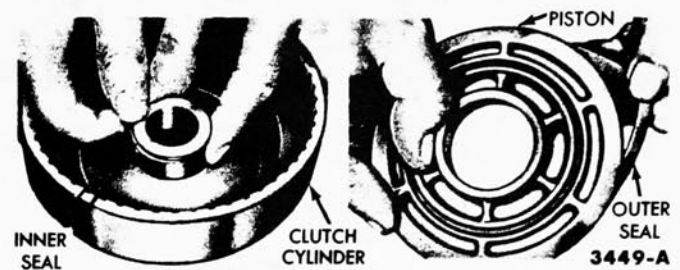

FIG. 15—Front Clutch Piston Seal Removal
5. Remove the piston inner seal from the clutch housing as shown in Fig. 15. Remove the piston outer seal from the groove in the piston as shown in Fig. 15.
16. Lubricate all parts with automatic transmission fluid. Install a new piston inner seal ring in the clutch cylinder as shown in Fig. 15.
17. Install a new piston outer seal in the groove in the piston as shown in Fig. 15.